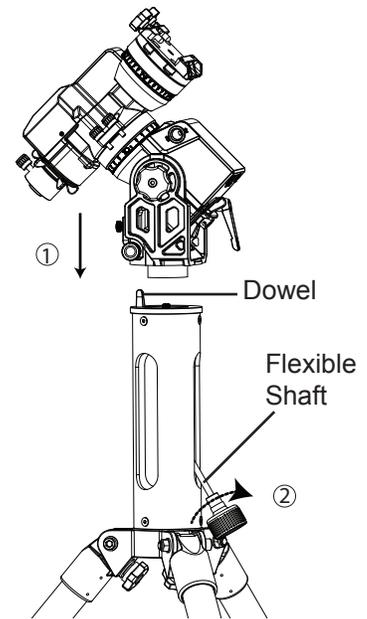

Fig. 1.2d
2. Align the metal dowel on the tripod top with the gap between the two azimuth adjustment knobs; then put the mount on the tripod top (Fig. 1.2b, Fig 1.2d).
5. **FOR USING A PIER TRIPOD**, while supporting the mount with one hand, use the tumb screw on the flexible shaft to secure the mount to the tripod top. (Fig. 1.2d)